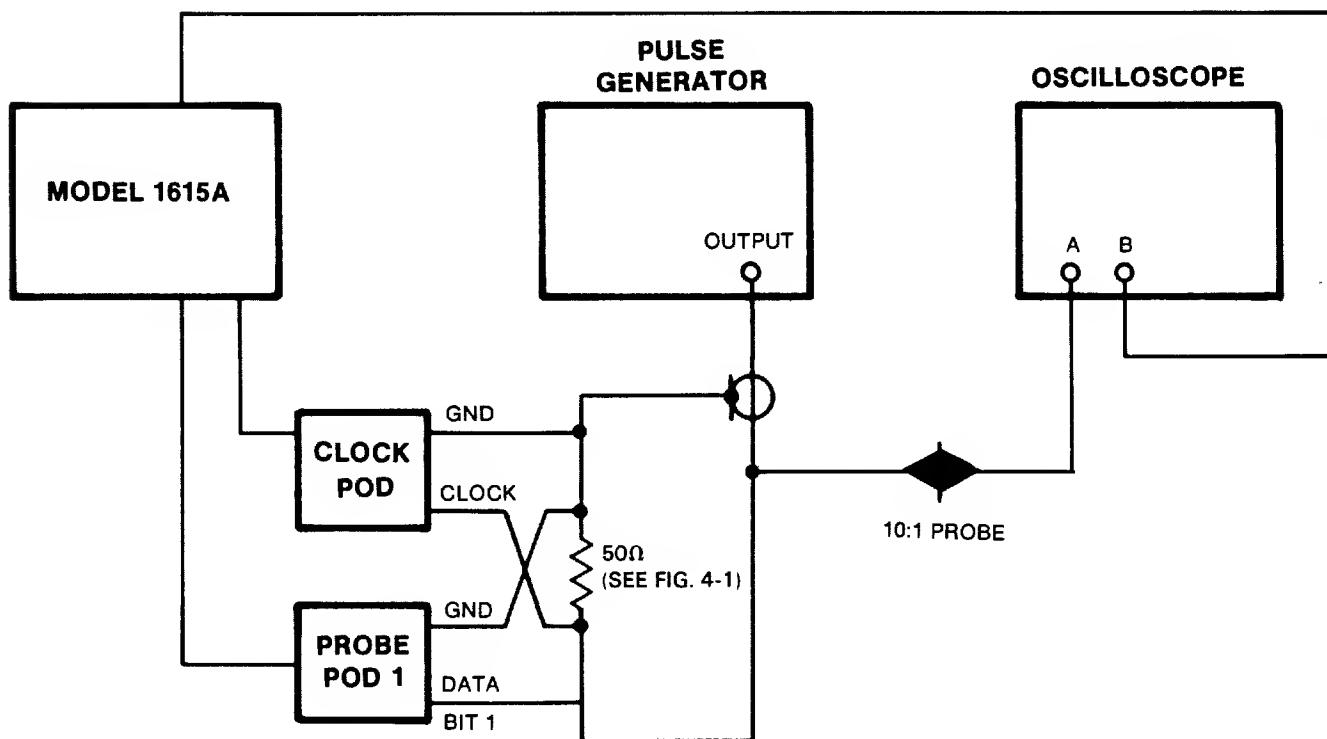

Figure 4-12 Trigger/Trace Point Outputs Test Setup
a. Connect test equipment to 1615A as shown in figure 4-12.